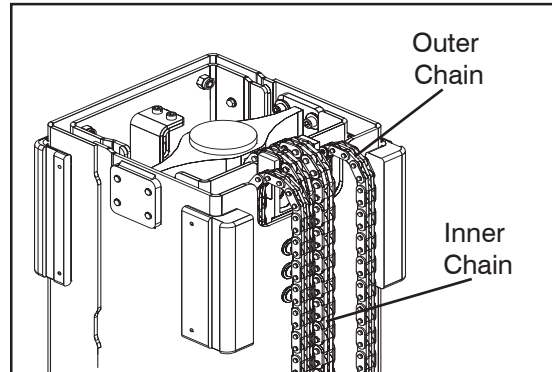

Figure 5-13. Positioning of the Outer Chains on Mast 2
1. Roll the two outer chains out of mast 1. See Figure 5-13.